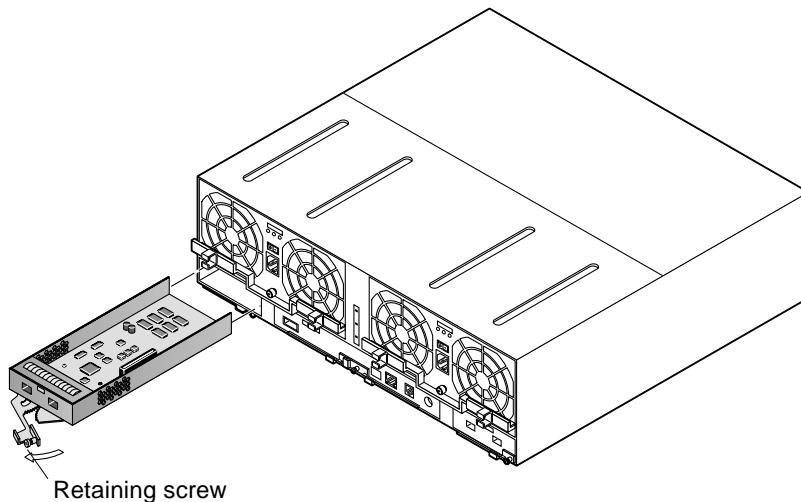

FIGURE 6-13 Removing the Interconnect Card
4. **Loosen the Phillips retaining screw to unlock the latch handle (FIGURE 6-13).**